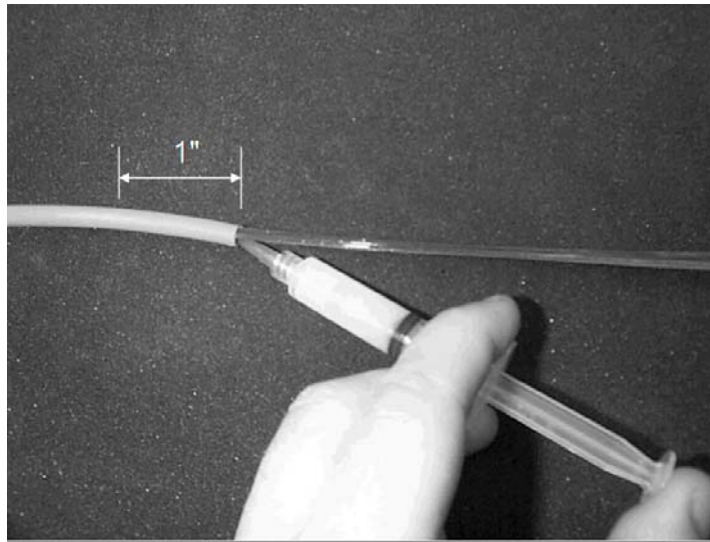

Figure 2: AccuTube blocking plug for mid-sheath entry.
- 3.5 For mid-sheath entry, the blocking plugs can be formed by injecting the B-Sealant directly into the buffer tubes. Inject a 1-inch (25 mm) section of B-Sealant into the end of the buffer tube (Figure 2).